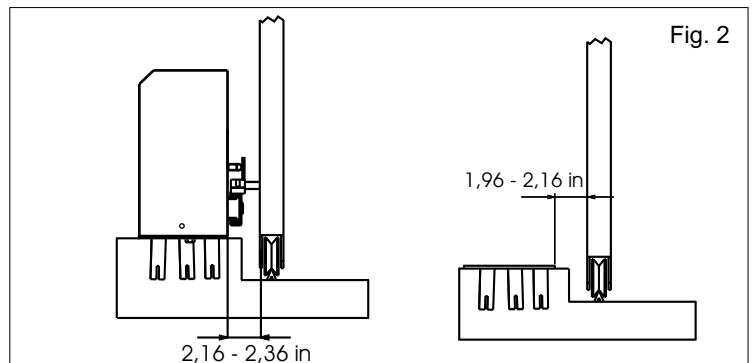
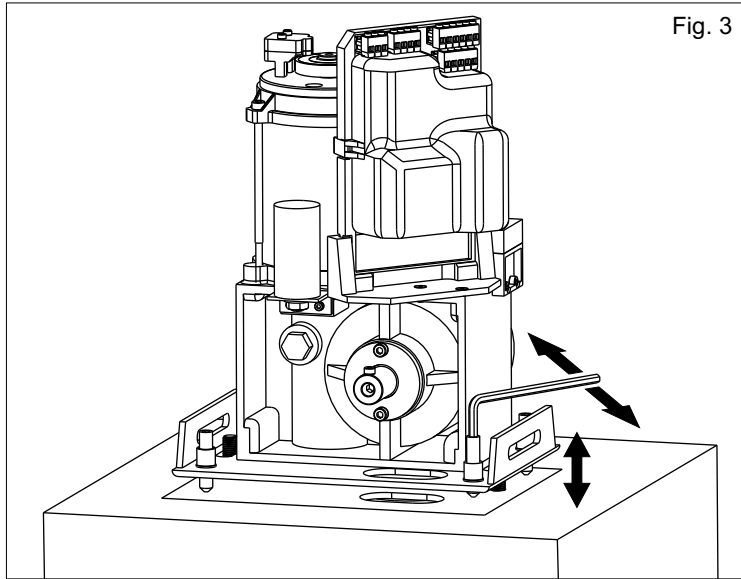

Fig. 2
Fig. 3
**2.3.** When concreting in the plate check that the plate is perfectly levelled and that the measurement of 1,96 - 2,16 in given in Fig. 2 is followed.
**3.2.** Adjust the motor reducer height using the four supplied grains (Fig. 3) respecting the quotes mentioned in Fig. 2. The adjusting grains can be used to correct a previous and imperfect levelling of the foundation plate.